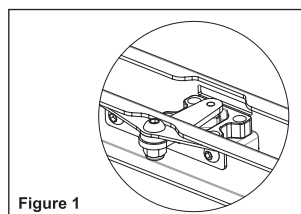

Figure 1
- 1) Push evenly in the front of the VW600 to release the single latch spring lock (Figure 1).